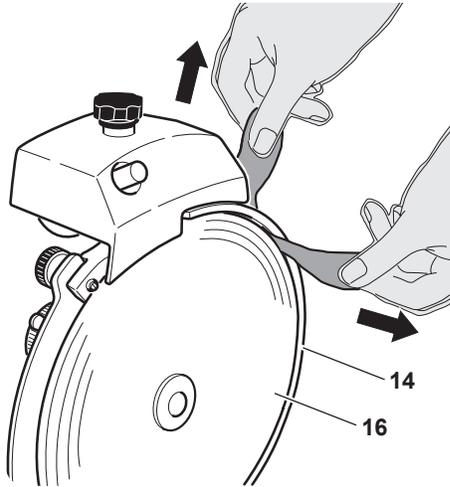

Figure 17-1
- Carefully insert the cloth between the knife (16) and knife ring guard (14). While holding the cloth between knife(16) and knife ring guard (14), work it along the inside surface of ring guard (14). Repeat this procedure as necessary (Figure 17-1).